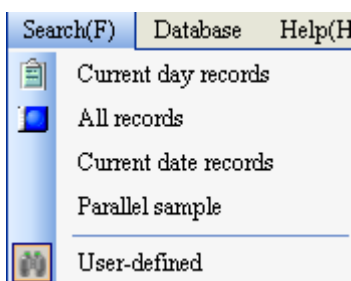

Fig.5-4
5.2.3 Search (main menu) as shown in Fig.5-4: